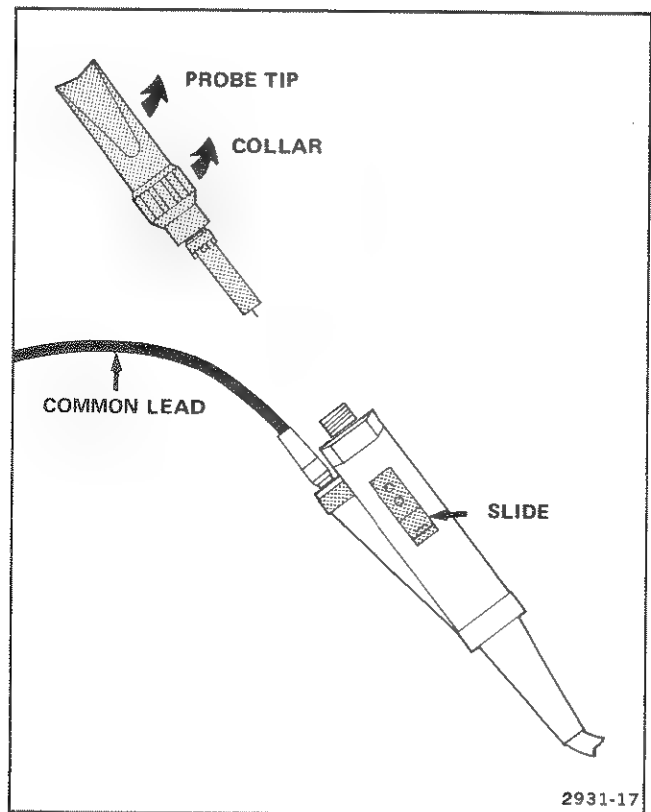

Figure 3-4. Replacing the 3000-V probe tip.
To replace the 3000-V Probe tip with a new one, refer to Figure 3-4 and perform the following steps:
2. Retract the slide to the position shown in Figure 3-4. The slide will stay in this position, and the spring inside the probe tip should cause the probe tip to return to its original position. If this does not occur, hold the slide in the retracted position and pull the probe tip away from the probe body until it reaches its original position.